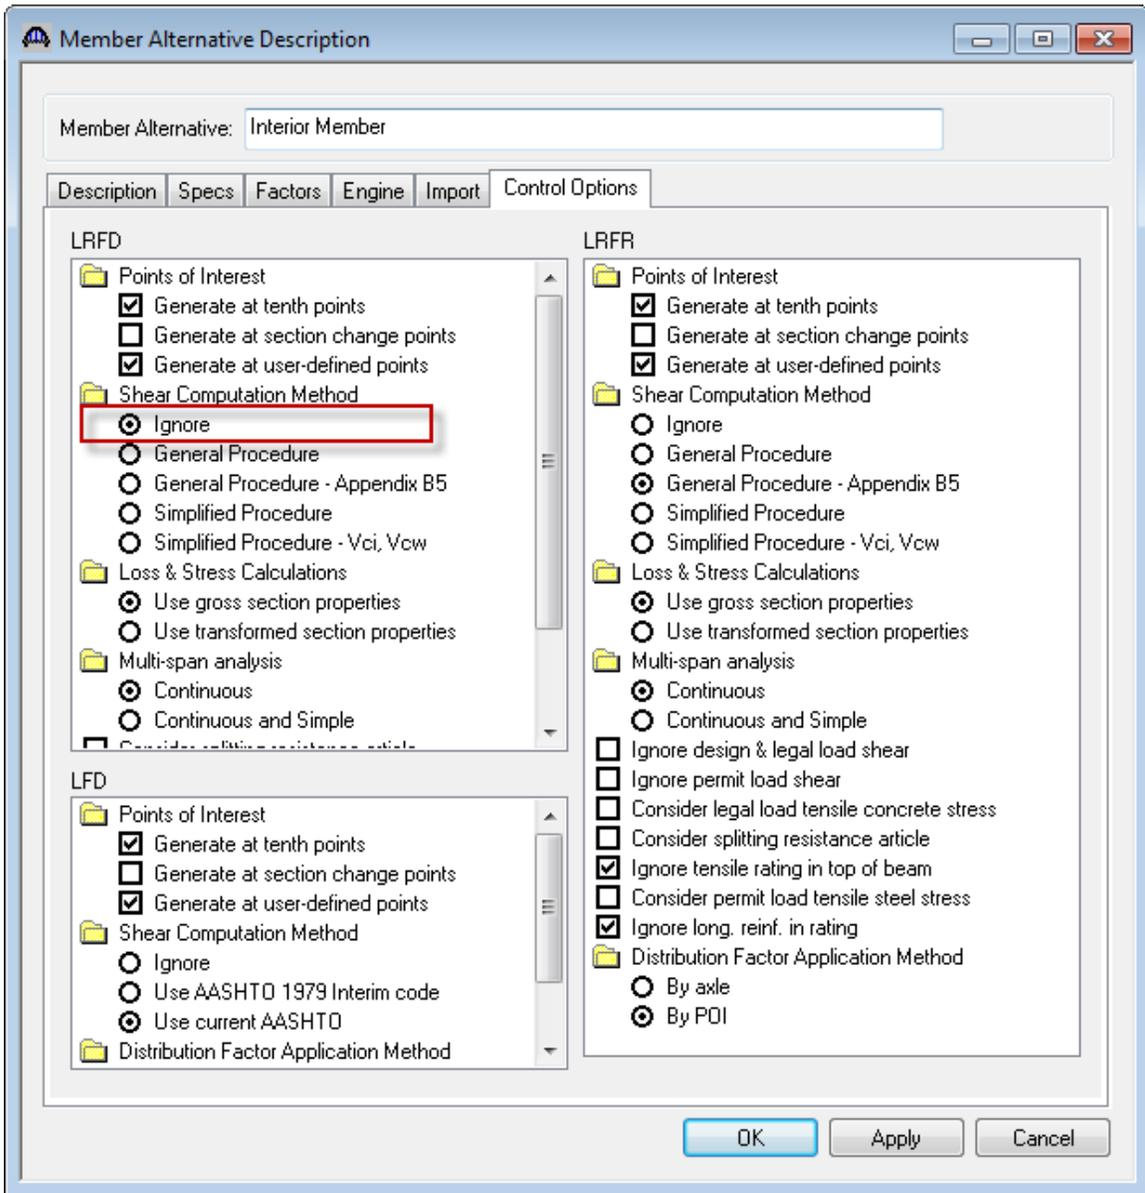

Fig 15. Member Alternative Description Window – Modified Control Options Tab
Now go to G2, Member Alternative - Interior Member (E) (C) and double click on it to open Member Alternative Description window. On this window go to Control Options tab (Fig 15). On this Control Options tab under LRFD settings, we can see shear computation method has been changed to Ignore. Click on “Cancel” button to close the window.